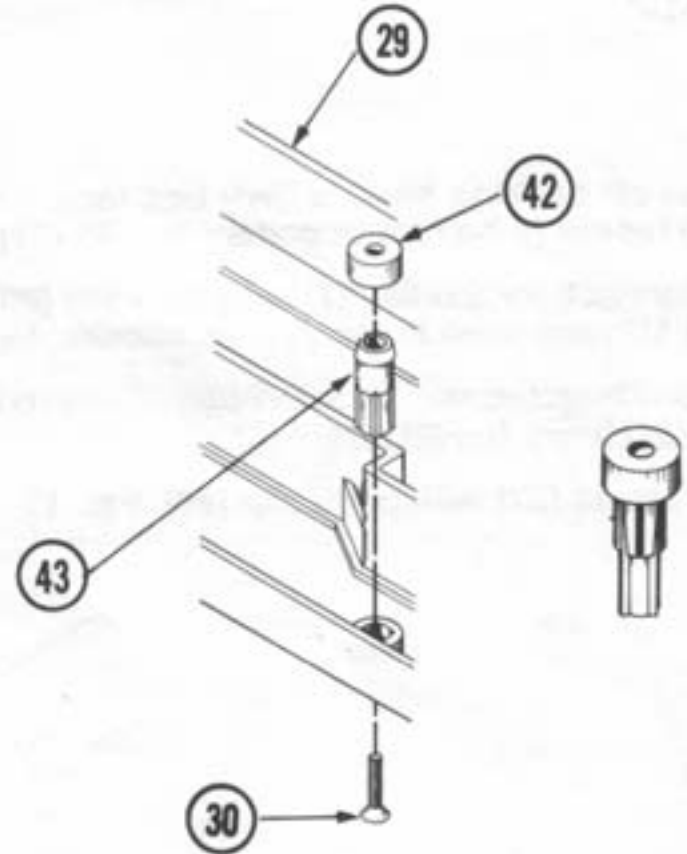

Figure 17
15. Snap antenna mount cap (42) onto antenna mount (43) and secure antenna mount (43) to chassis (29) as shown using one 4-40 x 3/8" flathead screw (30). Be sure that the slot in the antenna mount (43) points to the rear. Fig. 17.